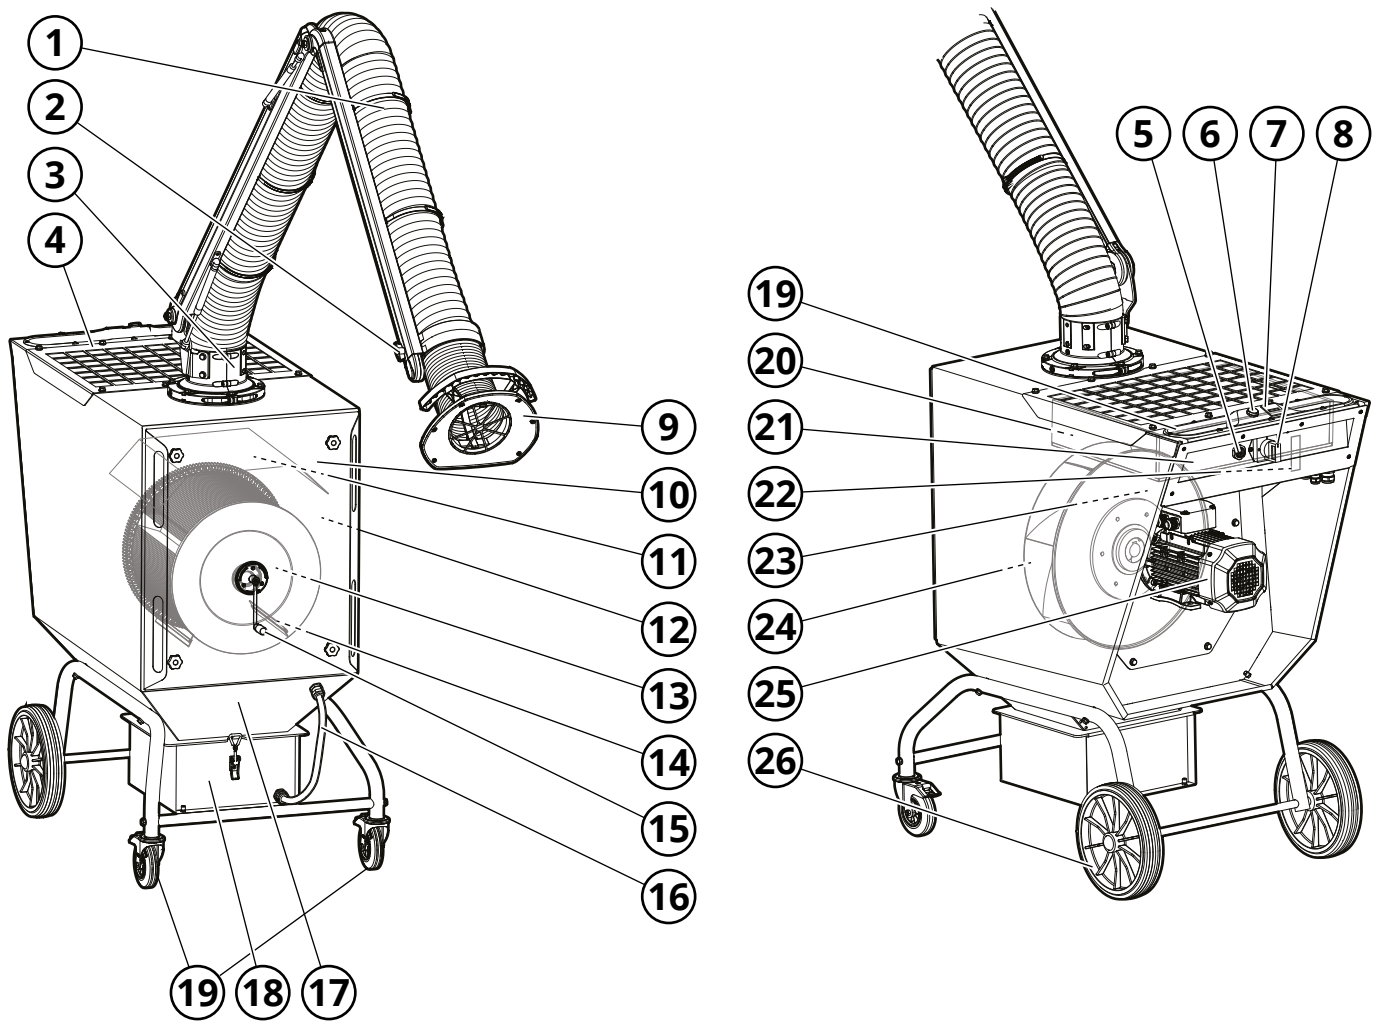

Fig. 2
See Fig. 2.
Contaminated air is drawn in via the extraction arm (1, **Fig. 2**) and transported to the dirty side (12) of the assembly where the air is filtered with high efficacy through the horizontally-mounted filter cartridge (13). The clean air is then drawn through the impeller (24) and discharged from the clean side of the filter unit (23) through the exhaust grille (4).